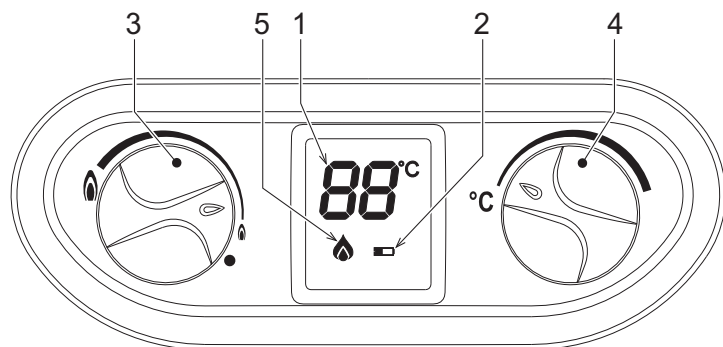

fig. 1 - Control panel
#### Panel legend fig. 1
Use the power adjustment knob (ref. 3 - fig. 1) to select the water heater power, minimum or maximum and intermediate positions depending on the required water heating level. Turn the knob anticlockwise and the unit heats the water at maximum power. If the temperature is too high, for example in the summer, or when a reduced flow of not very hot water is necessary, turn the knob clockwise. This reduces the power (and gas consumption). In the position ● the unit is deactivated.